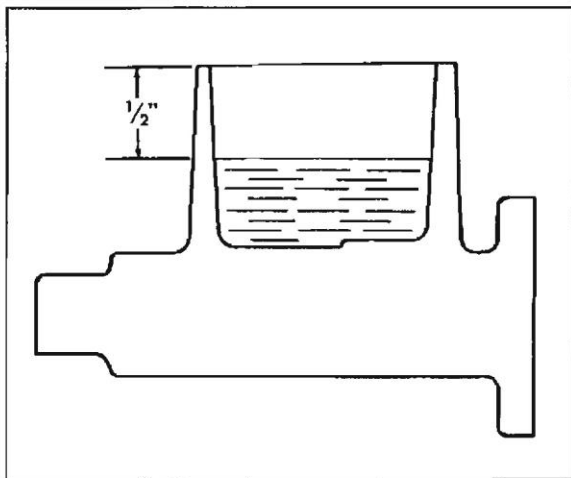

Fig. 5-3 Correct Fluid in Master Cylinder
4. When bleeding operation is completed, refill reservoir to within 1/2" of top of master cylinder and then replace filler cap (Fig. 5-3).